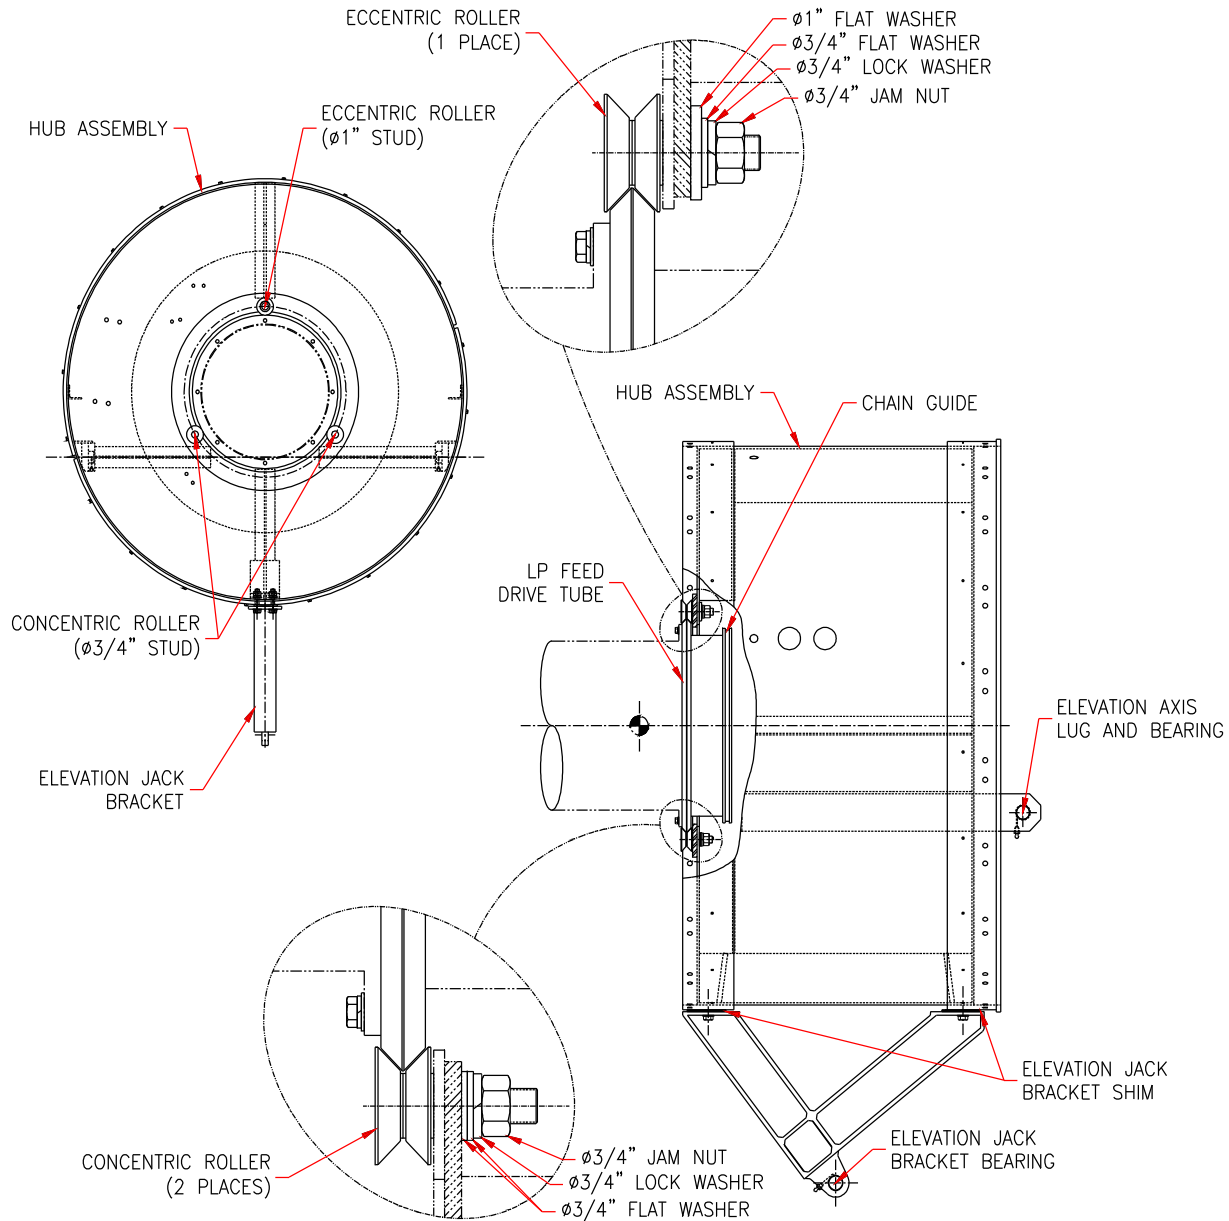

Figure 3-2. LP Feed Interface Installation
Note: *Use the following procedure for a linearly polarized (LP) feed installation. Refer to Figure 3-2 of this document and Drawing 630024 in the print pack.*
3. Install the elevation jack bracket to the hub (if not factory installed.) Completely tighten the mounting hardware. (See Figure 3-2 and Drawing 630021).
1. Clean and lubricate the bearings on the elevation axis lugs and elevation jack bracket on the hub. (See Figure 3-2).